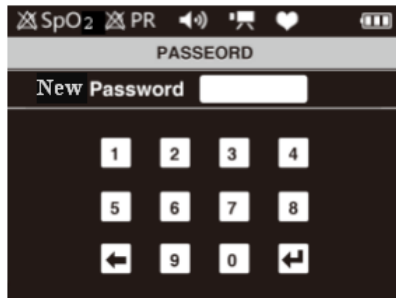

Figure 14. New Password interface
- Set Password:** move the choice bar to the “Set Password” item, then press menu button to enter the Password interface of Figure 14 to set a new password.